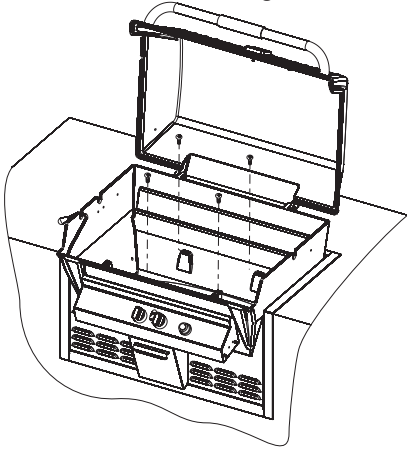

Figure 6
6. Mount the grill to the BHAX2 surround using four 1/4-20 x 1 1/4" screws. See Figure 6.